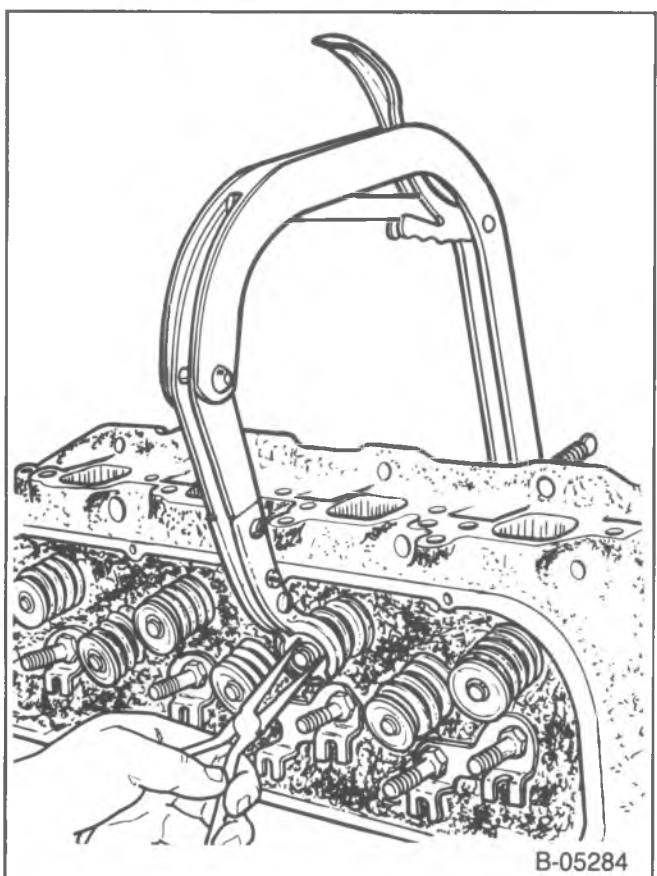

Figure 24—Compressing the Valve Springs
1. Valve keepers (22).
- Compress the springs with J-8062 (figure 24).
2. Caps (23), oil shedder (24), and springs.
3. O-ring seals (26) and seals (25) (if used).
- Compress the valve spring using J-8062 (figure 24). Compress the spring enough so the lower valve stem groove can be seen clearly.
- Push a new O-ring seal (26) onto the valve stem. The seal is to be installed on the stem's lower groove. Make sure the seal is flat and not twisted.